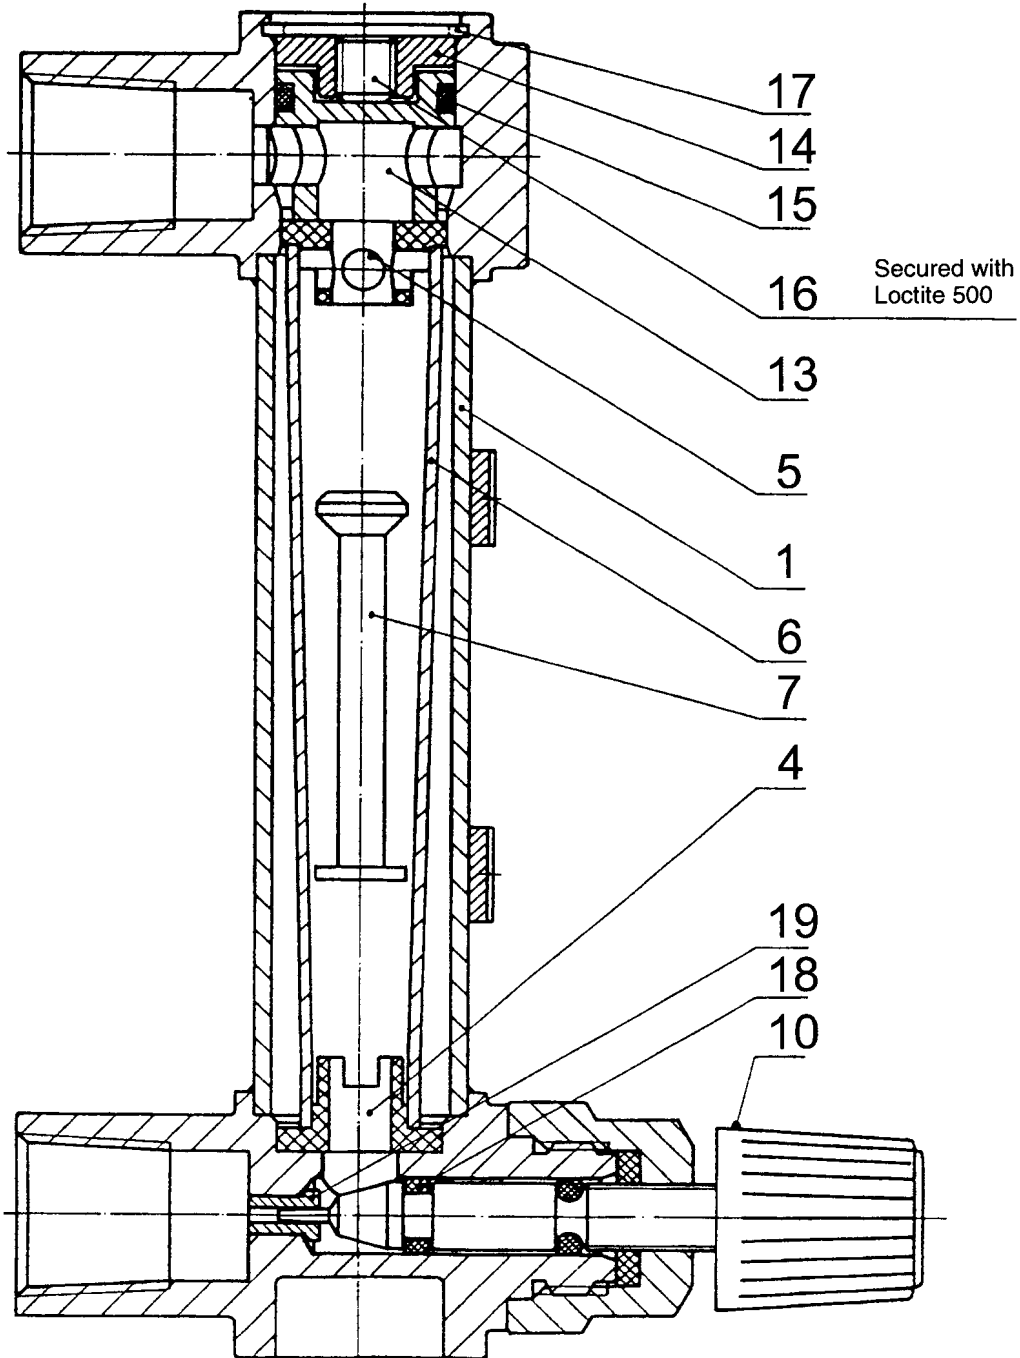

Fig. 10 Meter Tube Assembly, Complete, Horizontal Connections
4.2.2 Horizontal Connections (see Fig. 10)